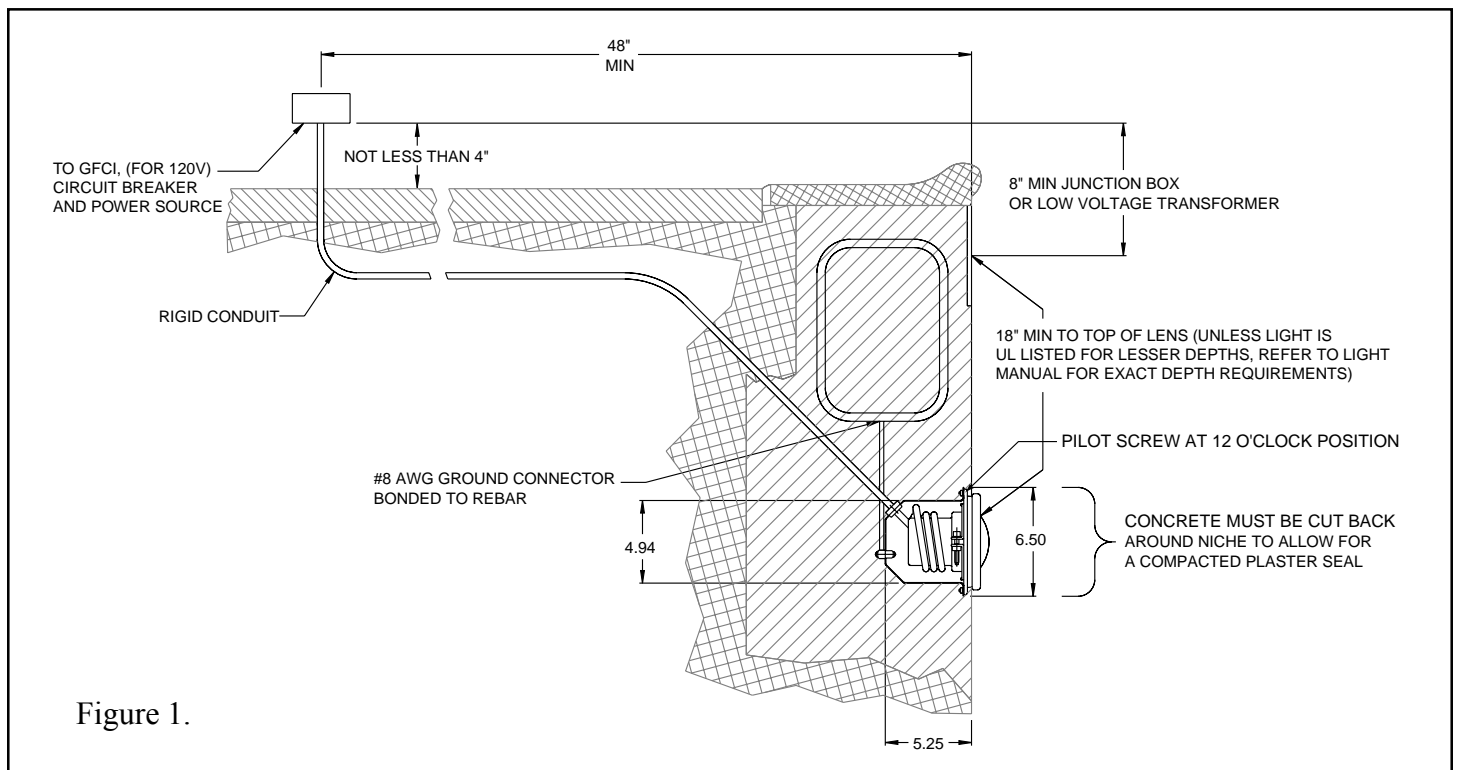

Figure 1.
- b. The niche must be properly installed so the pilot screw hole is at the 12 o'clock position and that the top edge of the Underwater Light's lens is at least 18 inches below the surface of the water in the pool unless the light being used is UL listed for lesser depths. Refer to the Installation Manual of the light for exact depth requirements. (See Figure 1.)
- d. The junction box (or, the 12 volt models, the low voltage transformer) is located at least 12 inches above ground level and at least 48 inches from the edge of the pool. (See Figure 1.)